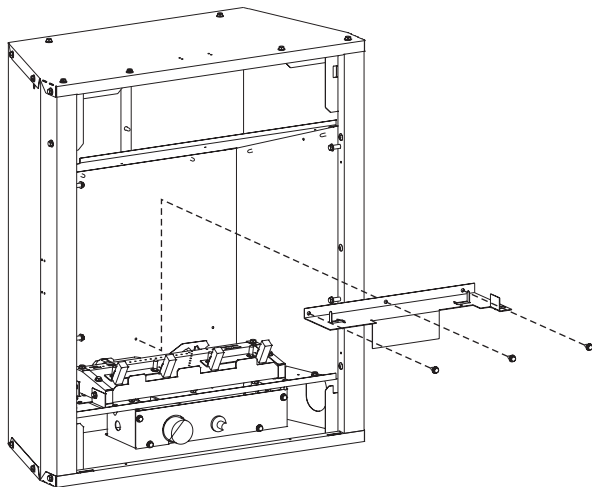

Figure 21
4. Remove rear log support from inner casing [3 three (3) 10 x 1/2" screws]. See Figure 21.